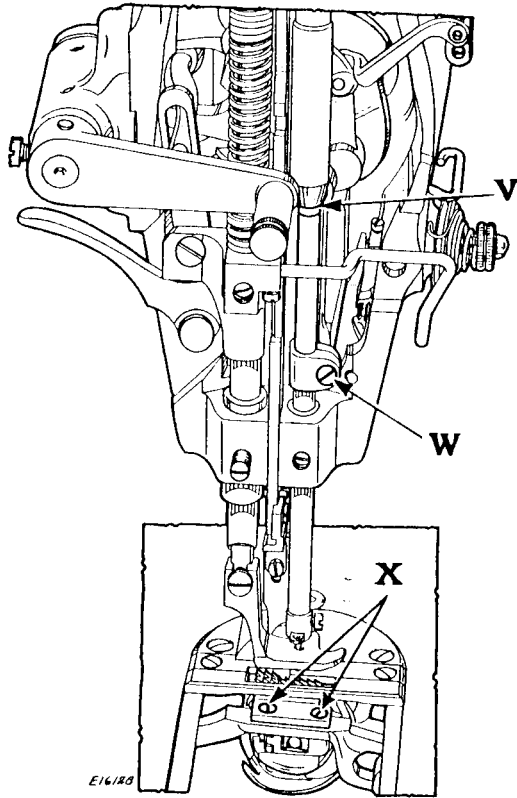

Fig. 25.
The needle bar which is in the machine when shipped from the factory, has two timing marks near its upper end. Rotate the machine pulley until the needle bar moves down to its lowest position. The UPPER TIMING MARK on the needle bar should then be centered with the lower end of the needle bar bushing, as shown at (V) in Fig. 25. In case the needle bar is not set at the correct height, loosen screw (W, Fig. 25) and move the needle bar up or down until the UPPER TIMING MARK is centered with the lower end of the needle bar bushing, as shown at (V), then securely tighten screw (W).
Remove presser foot, slide plate, throat plate and bobbin case. Take out the two screws (X, Fig. 25), and remove feed dog.